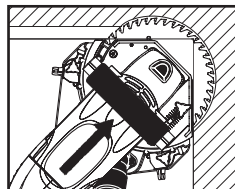

Figure 15
- Push saw into the corner (see Figure 15).